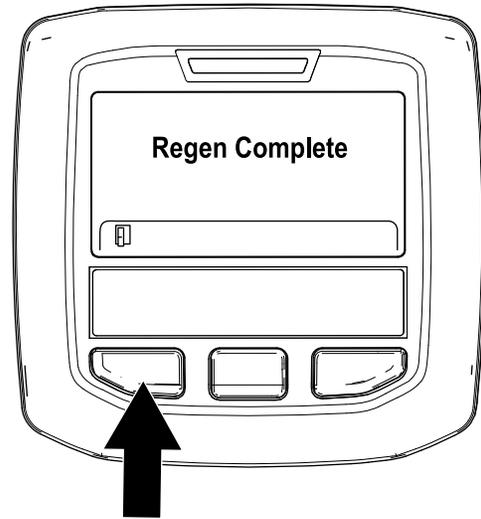

Figure 39
9. The parked regeneration is complete when the “Regen Complete” message displays in the InfoCenter. Press the left button to exit to the home screen (Figure 39).